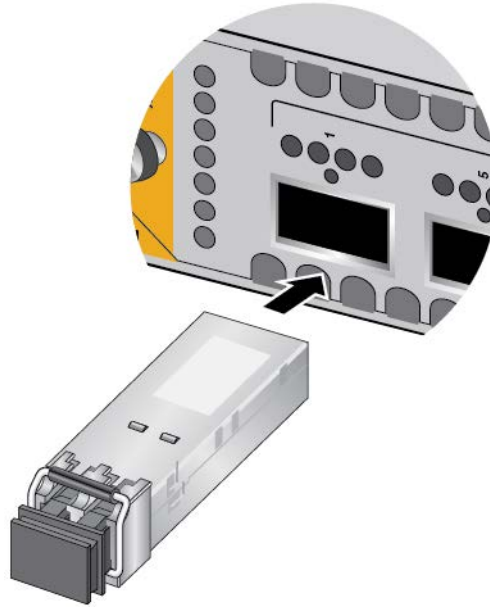

Figure 119. Installing 40Gbps Fiber Optic Transceivers in the AT-XEM2-4QS Line Card
- ❑ 40Gbps transceivers in the AT-XEM2-4QS Line Card - refer to Figure 119.